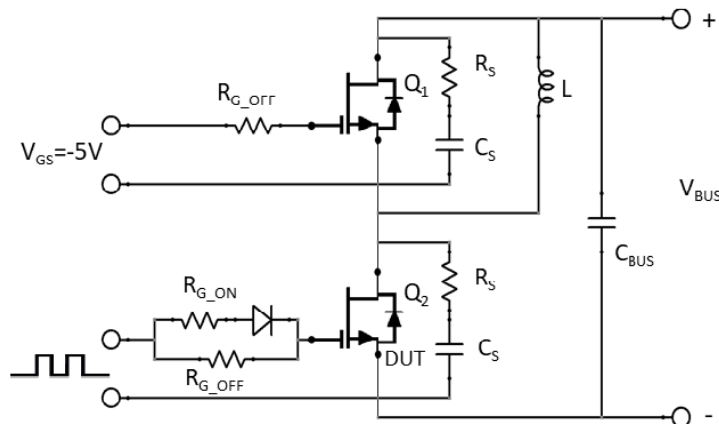

Figure 29. Clamped Inductive Load Switching Test Circuit. An RC Snubber ($R_S = 5$ Ω and $C_S = 330$ pF) is required to improve the Turn-off Waveforms.
6. The switching performance are evaluated with a RC snubber circuit as shown in Figure 29.